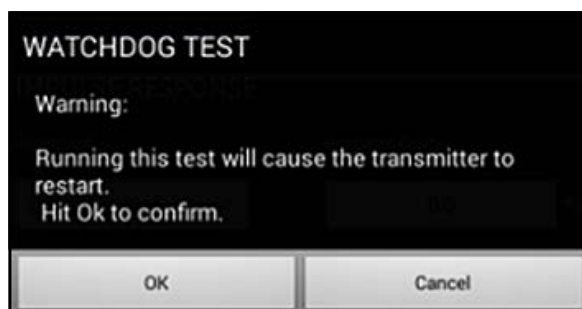

Figure 133: Watchdog Test Warning
2. A properly functioning PT900 restarts if the Watchdog Test is run, and a warning message similar to *Figure 133* below is displayed.